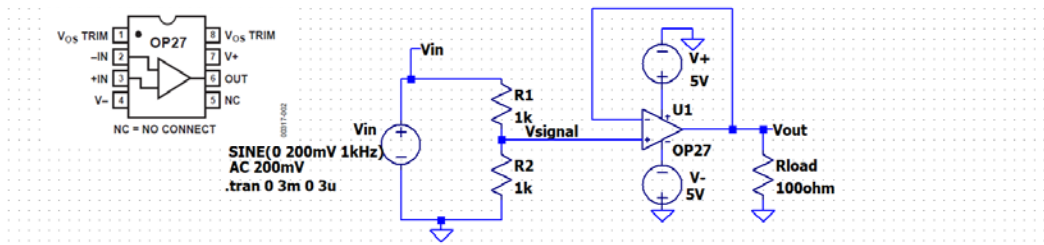

Figure B-3.
- Modify the circuit you created by adding an op-amp voltage follower between R1 and R2, as shown in Figure B-3:
- Run the Figure B-3 simulation, plot the voltage traces for the labelled points and mark the amplitudes on the plot. Copy the plot for your report.
- Recall that $Z=V/I$ where V and I are phasors. The voltage of interest is Vsignal in Figure B-3. The current is the current into non-inverting input of the op amp, the + input.